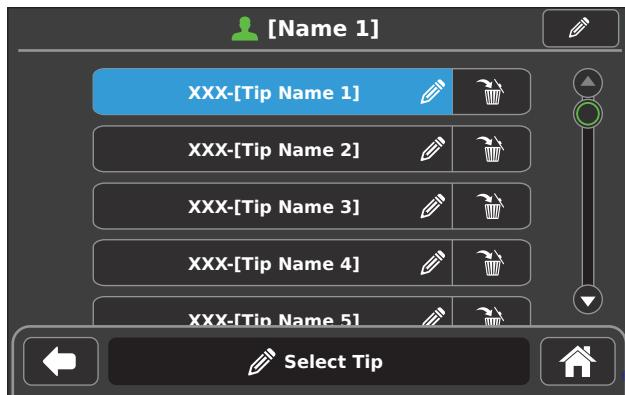

Figure 62 – Select Tip
3. From the SELECT TIP screen, touch to select and edit the preset tip settings (Figure 62). A preset SETTINGS screen will appear to assign preset settings to a selected tip.